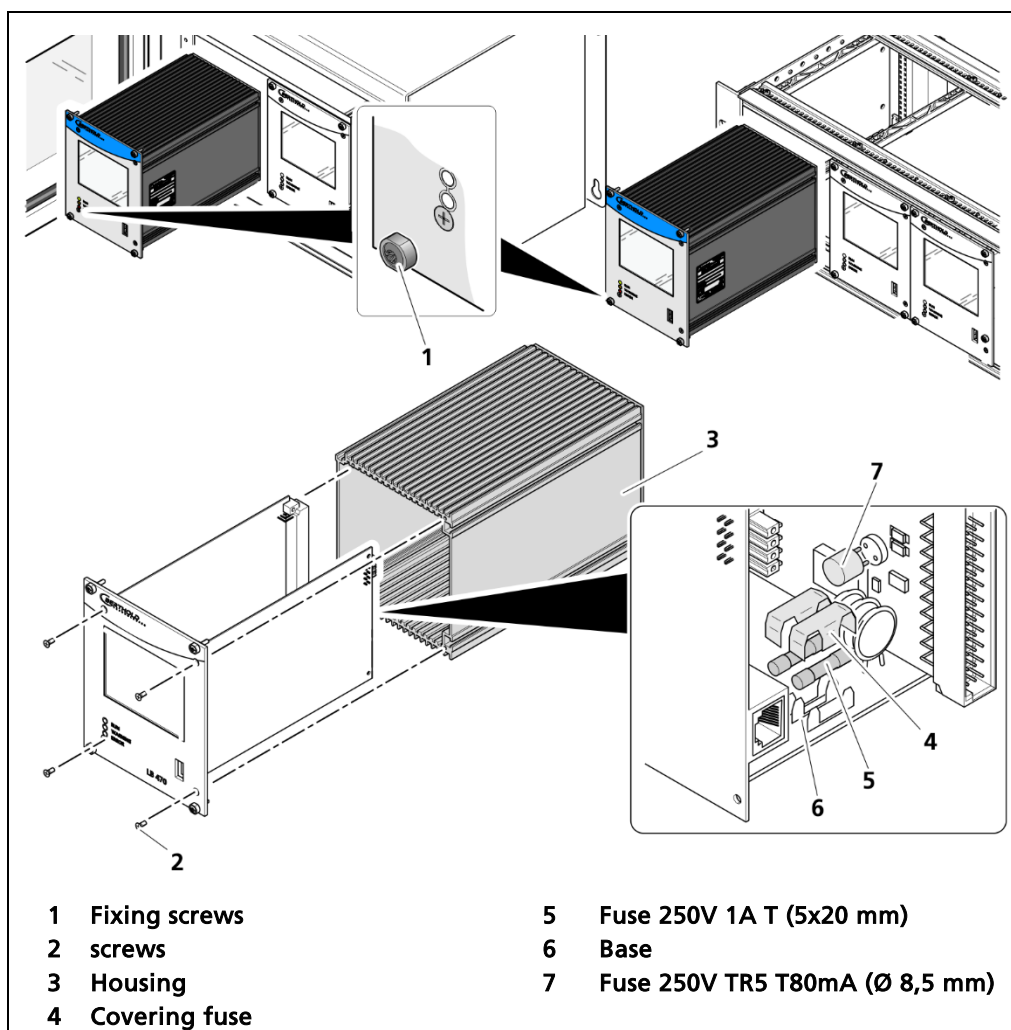

Fig. 148 Replacing fuses master EVU
2. Loosen the four fixing screws (Fig. 148, item 1) and remove the EVU from the wall housing or subrack.
3. Loosen the four sunken screws on the front side of the EVU (Fig. 148, item 2).
4. Pull out the housing (Fig. 148, item 3) carefully.
5. Remove the protective covering of the fuse (Fig. 148, item 4)
6. Remove the fuse (Fig. 148, item 5, item 7).
9. Screw the front panel to the housing with the four screws (Fig. 148, item 2).
11. Tighten all fixing screws (Fig. 148, item 1).